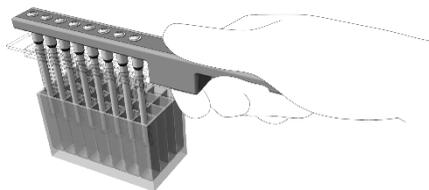

Figure 5. Collecting magnetic beads from **column 1**.
- Using the IndiMag Handheld with the rod cover, slowly mix 10 times up and down to collect the magnetic beads from **column 1** (Figure 5). Wait until all the beads have attached to the rod cover.